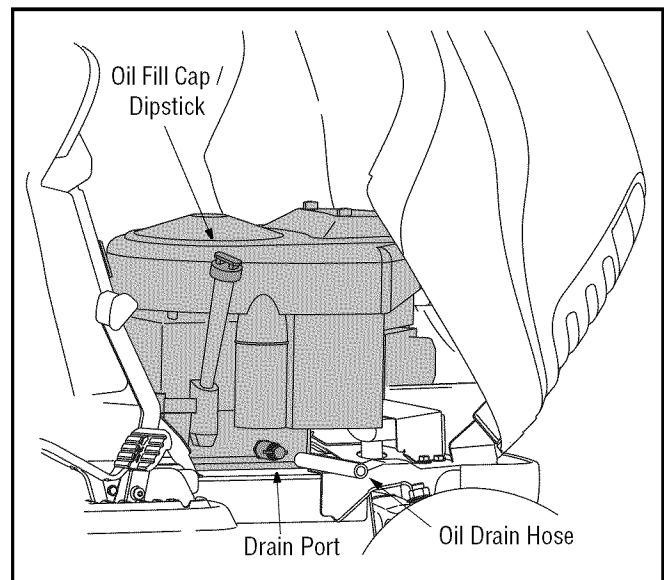

Figure 12
- Pop open the protective cap on the end of the oil drain valve to expose the drain port. See Figure 12.